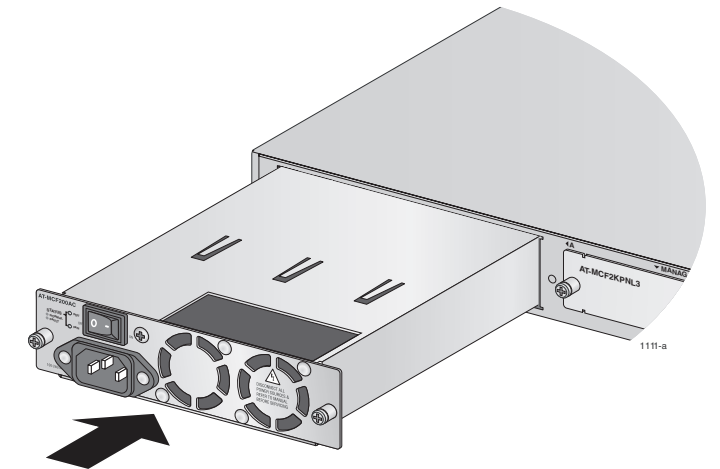

Figure 3. Installing the AT-MCF2000AC Power Supply Module
3. Slide the power supply module into the slot as shown in Figure 3, until it is flush with the back panel of the chassis. Light pressure may be needed to seat the module on the connector on the back panel of the chassis.